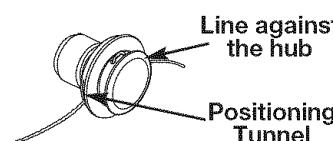

Fig. 13
- Pull the line and make sure the line is against the hub and is fully extended through the positioning tunnels (Fig. 13).